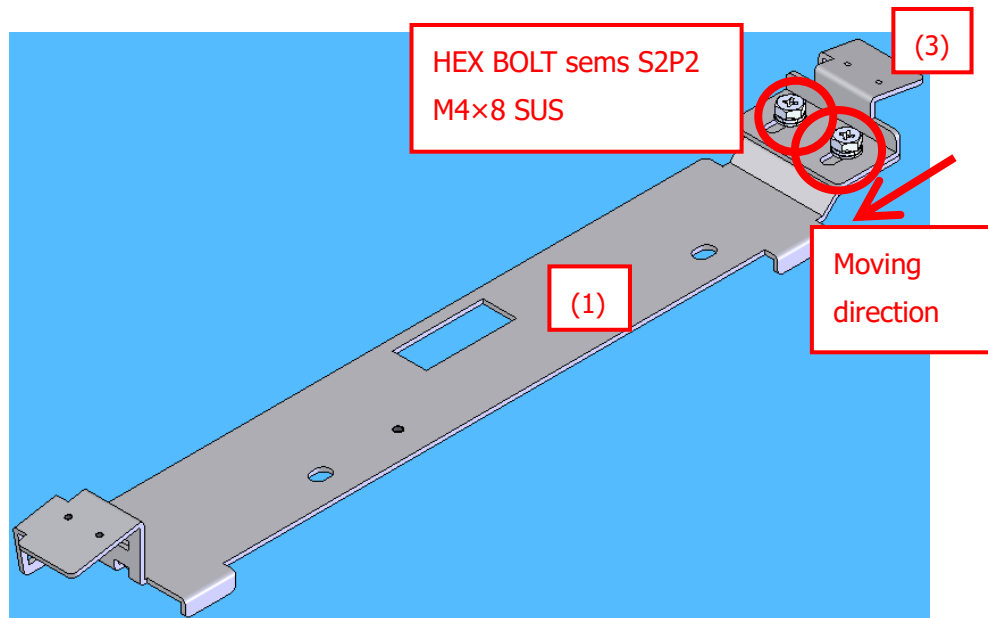

Fig. 1 Temporary tightening of (3) to (1)
1. Tighten (3) to (1) temporarily while moving toward the red arrow (Fig. 1).